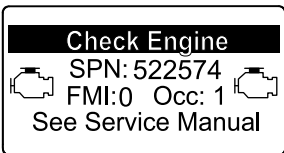

Figure 52
- Engine warning SPN 522574, FMI: 0 (Figure 52)